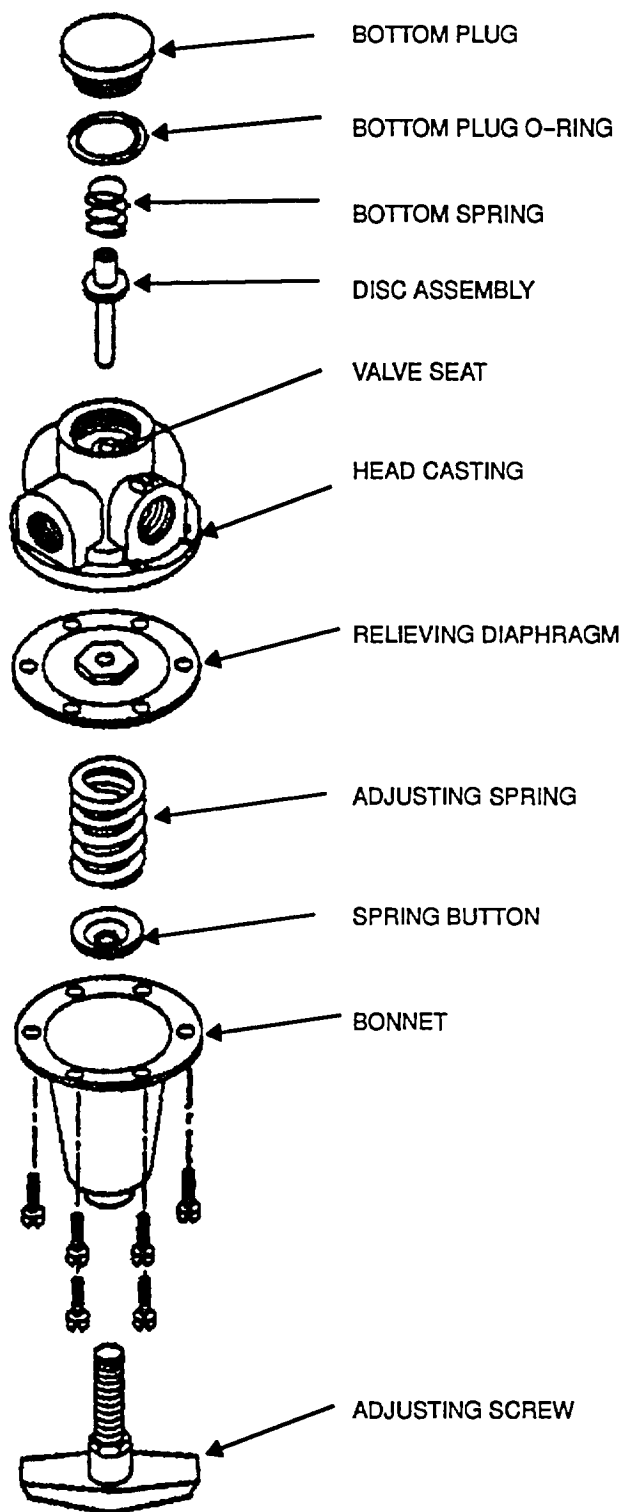

Figure 4-1. Air Pressure Regulators 1 and 2, Exploded View
- c. On air pressure regulator, unscrew bottom plug (or pressure gauge If installed in this manner) and remove bottom plug O-ring, bottom spring and disc assembly. Inspect valve seat for damage or wear. See Figure 4-1 for Identification of parts.
- f. Assemble pressure regulator in sequence shown in Figure 4-1.
- k. Remove spring button, adjusting spring and relieving diaphragm. Figure 4-1 shows parts identification.
- n. Assemble parts in sequence shown in Figure 4-1. Install bonnet and secure with six screws.